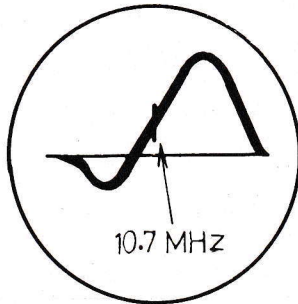

Fig. 5
- a. Align the L20 so that the wave mode will be appeared on either side of the flyback line. (Refer to Figs. 5 & 6).